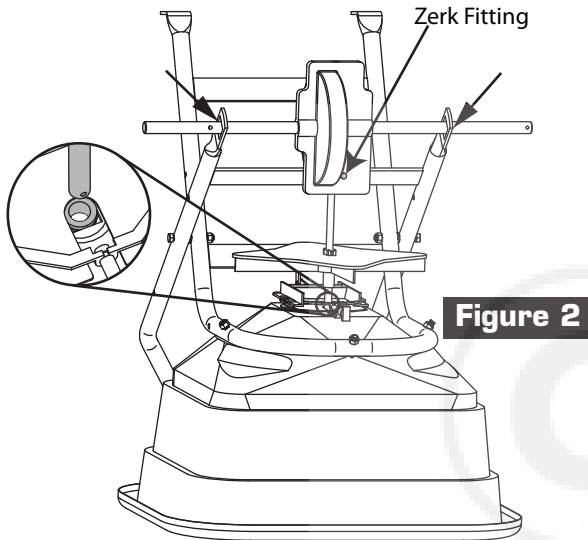

Figure 2
2. Insert Axle Assembly into the square holes on the Axle Support as shown in Figure 2.